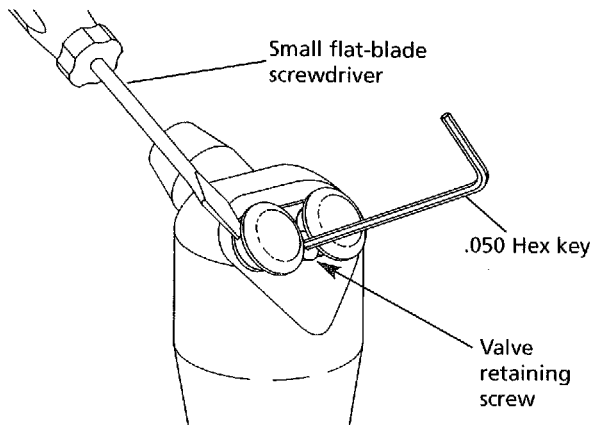

Figure 63. Tighten the valve retaining screw.
6. While holding the new valve retaining screw and hex key in place, use the tip of a small flat-blade screwdriver and gently press down on the brass spools of the valve assemblies until they are no longer flush with the syringe (see Figure 63).